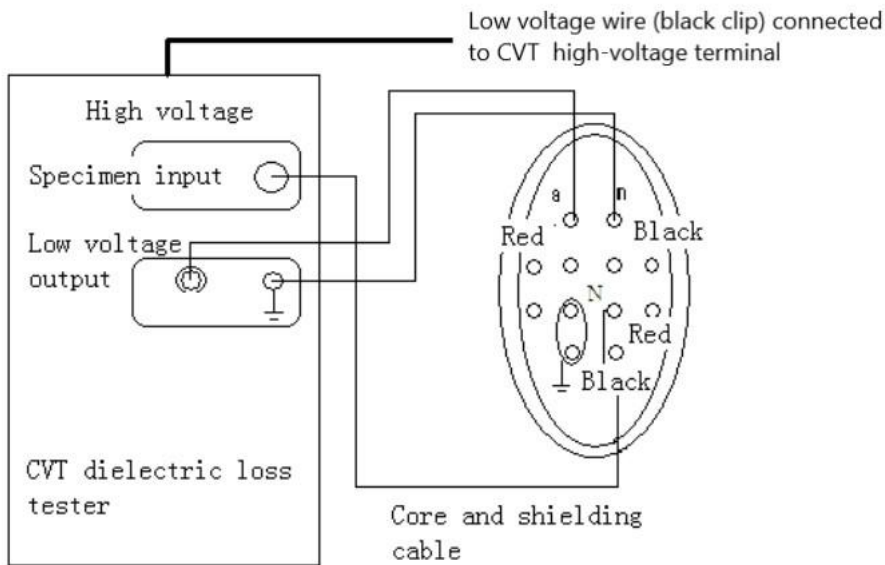

Figure 13 Measuring C2
(1) Measurement C2: the wiring is shown in Figure 13